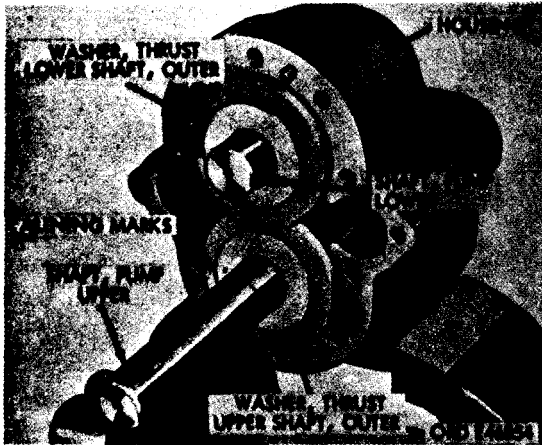

Figure 85. Pump housing with cover removed
housing (fig. 85) to determine correct position for reassembly. Remove upper and lower shaft outer-thrust washers.
- (e) Aline upper and lower shaft outer-thrust washers as marked with pump housing (fig. 85), and install thrust washers on pump upper and lower shafts.
(2) Install pump cover and pump packing gland.